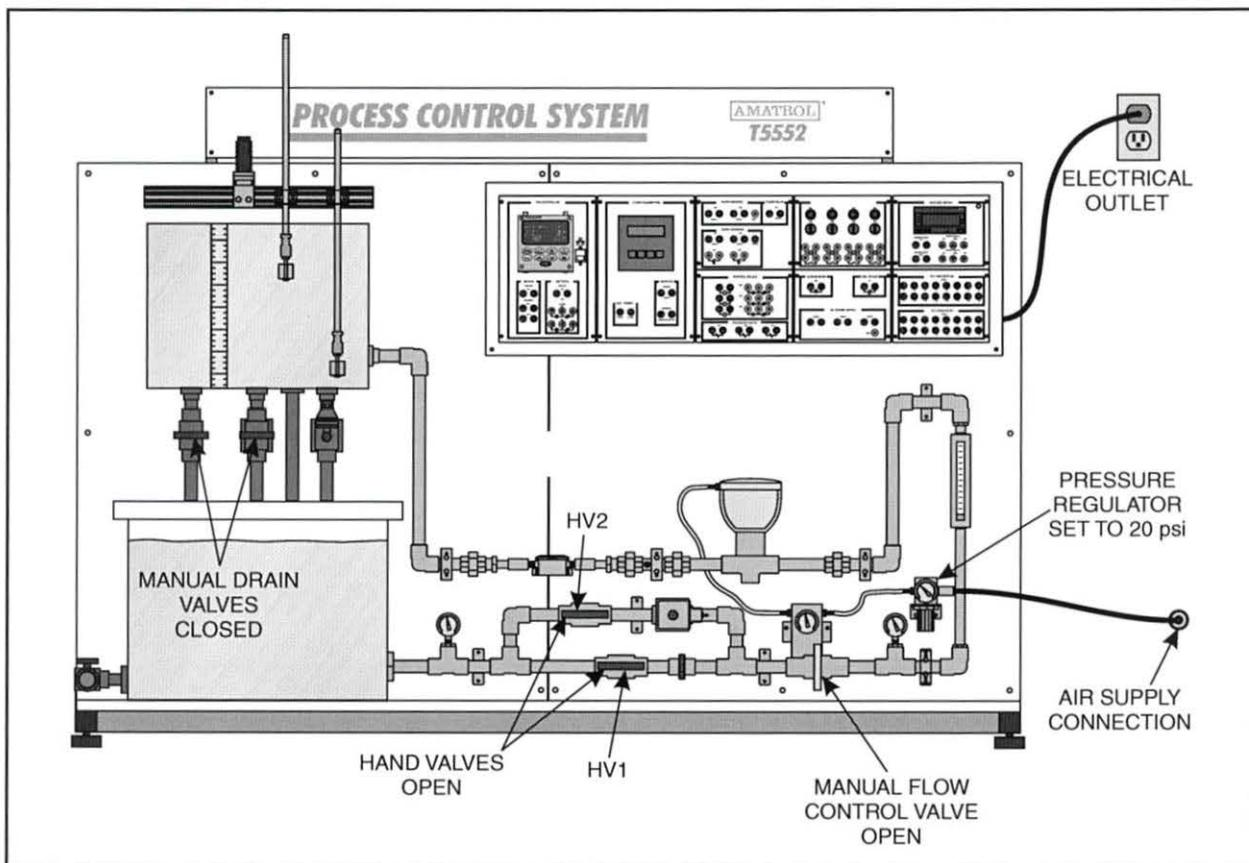

Figure 35. T5552 Setup
- 2. Perform the following substeps to set up the T5552, as shown in figure 35.